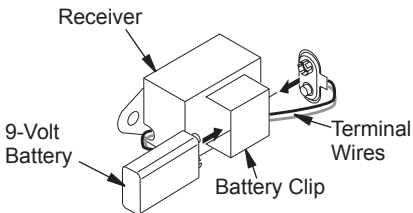

Figure 28 - Attaching Battery to Receiver
2. Locate the battery clip mounted on the back of the receiver (see Figure 28).
4. Attach the terminal wires to the battery (see Figure 28).